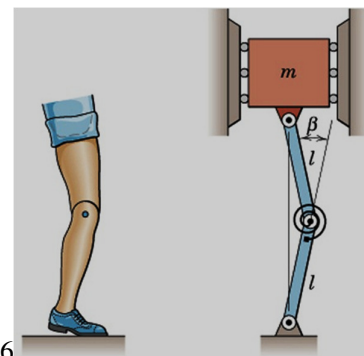

Fig. 6
- Q. No. 6 One of the critical requirements in the design of an artificial leg for an amputee is to prevent the knee joint from buckling under load when the leg is straight. As a first approximation, simulate the artificial leg by the two light links with a torsion spring at their common joint (Fig. 6). The spring develops a torque $M=K\beta$, which is proportional to the angle of bend β at the joint. Determine the minimum value of K which will ensure stability of the knee joint for $\beta=0$.